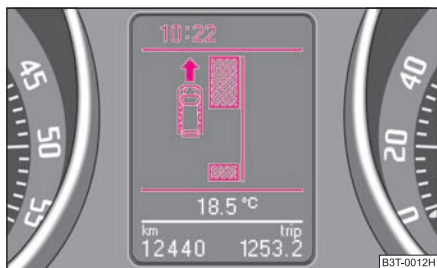

Fig. 129 Information display: Parking place recognized with the information to drive on
- If the park assist has recognized a suitable parking place, the parking place is shown in the information display* ⇒ fig. 129.